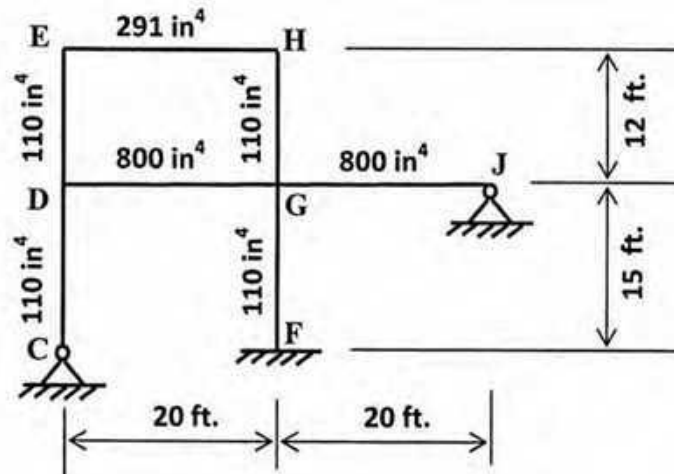

Fig. 5
5. Determine the effective length coefficients for the columns of the frame shown in Fig. 5. The moments of inertia for members in in^4 are shown in parentheses on the members. The correction factors for beam stiffnesses with far end of the beam hinged are $1/2$ with sidesway and $3/2$ without sidesway. Annexure provides necessary nomographs.